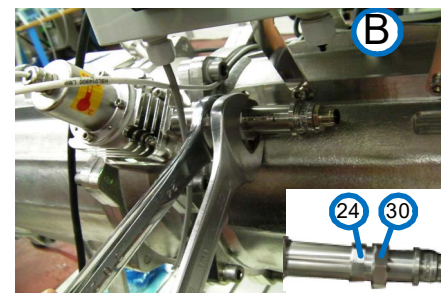

Figure 10-45: Loosening nuts B (Generic View)
- Step 1.** To disconnect the harness connector (shown in view A, **Figure 10-45**), unscrew the sensor's threaded locking nut.